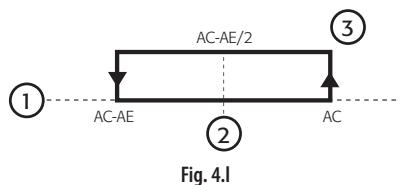

Fig. 4.I
- indicates that the limit between Ac and AE has been exceeded (deriving from the calculation: Ac-AE/2, see Fig. 4.I);
- indicates that the temperature set point Ac has been exceeded (see Fig. 4.I);